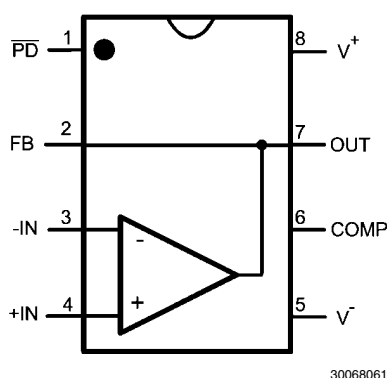

FIGURE 2. 8-Pin LLP Pinout Diagram
The LMH6629 (LLP-8 package only) has some additional features to allow maximum flexibility. As shown in Figure 2 there are provisions for low-power shutdown and two internal compensation settings, which are further discussed below under the COMPENSATION heading. Also provided is a feedback (FB) pin which allows the placement of the feedback resistor directly adjacent to the inverting input (IN-) pin. This pin simplifies printed circuit board layout and minimizes the possibility of unwanted interaction between the feedback path and other circuit elements.